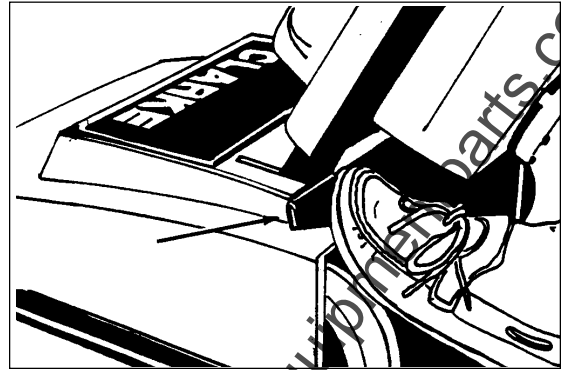

Figure 5
The handle release lever is at the lower left rear corner of the machine (1). See Figure 5.